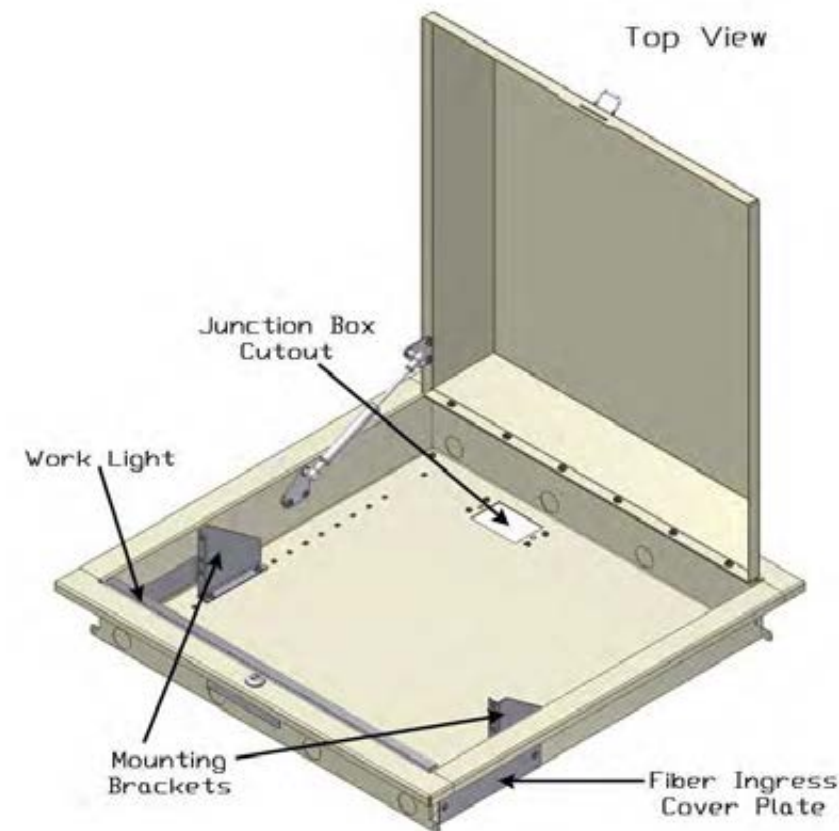

Figure 2
Step 2 – Attach the electrical junction box to the cutout located near the back of the enclosure (Figure 2) with four (4) #6-32 screws.
**⚠️\*\*IMPORTANT\*\* - The electrical junction box must be attached to the back box with all four (4) screws for it to be grounded properly.**